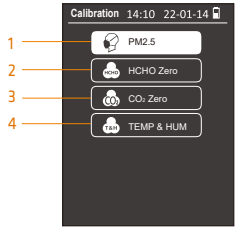

fig.17
c. The **Calibration** interface displays 4 options below (fig.17).